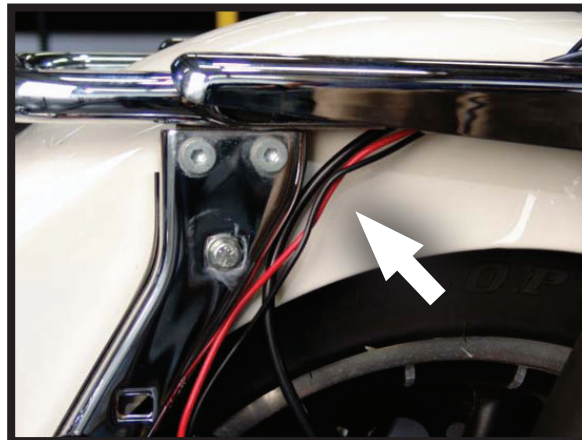

FIGURE 7
6. RUN BOTH COMPRESSOR WIRES ALONG WITH THE 1/4" HOSE UP TOWARDS THE FENDER STRUT AND FORWARD TOWARDS THE BATTERY BOX. (FIGURE 7)